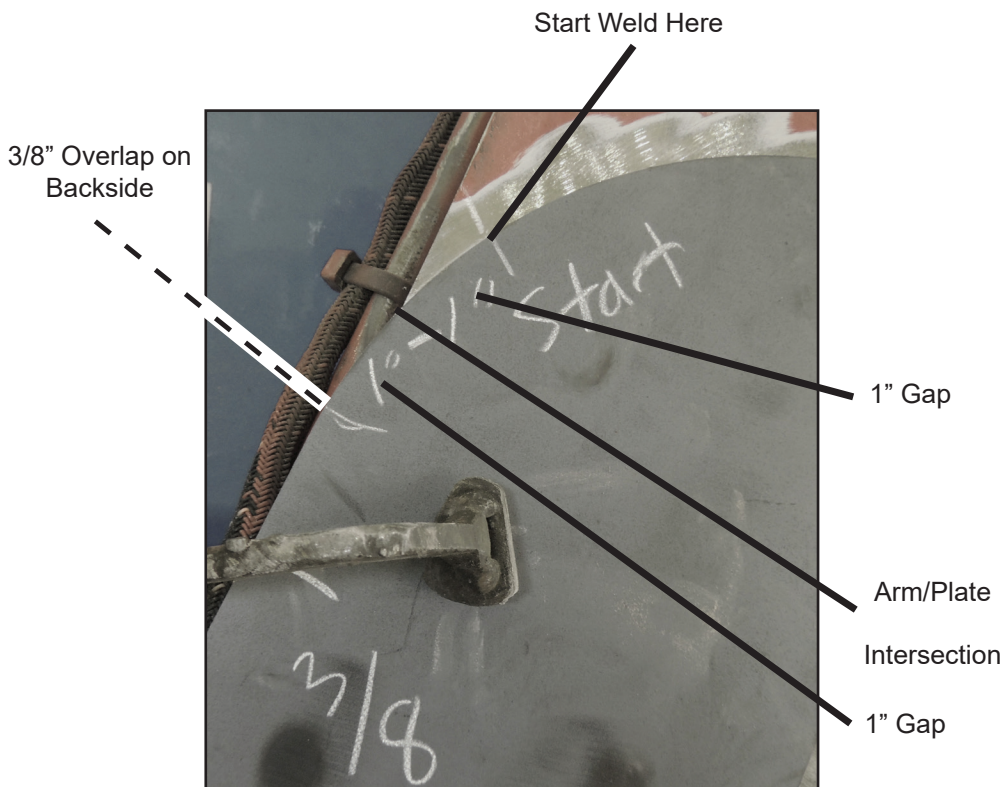
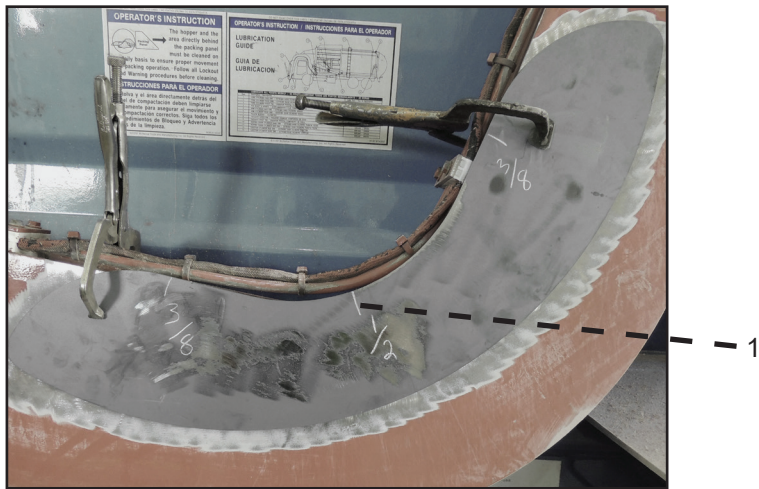

Figure 6
Figure 7
- Position the doubler plate until the doubler plate overlaps the inside arm edge by $3/8$ " at each end, approximately 1" from where the doubler plate and the arm intersect (Figure 6) Do this on BOTH ends of the doubler plate.
11. Measure the distance that the backside of the doubler plate overlaps the arm at the approximate center of the doubler plate and ensure it is 1/2" (Figure 7, Item 1). If the measurement is 1/2", proceed to Step 12. If not, adjust each end of the doubler plate until it overlaps the arm at the required dimensions: 3/8" at each end, 1" from the arm/plate intersection as shown in Figure 6, and 1/2" overlap at the approximate center as shown in Figure 7.